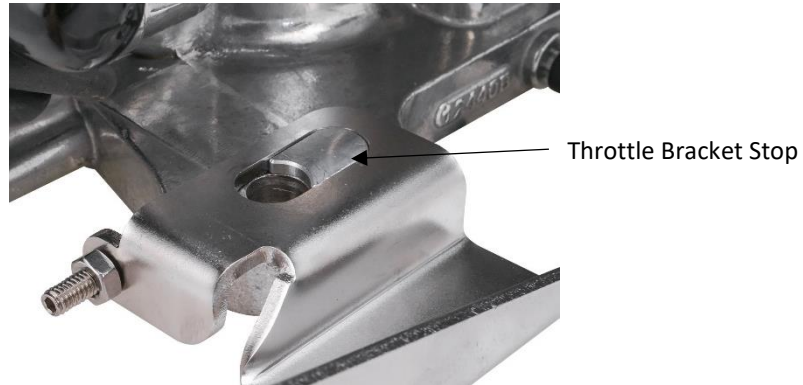

Figure 2
1. Remove the throttle body mounting bolt from the driver side rear corner of the throttle body. Referring to *Figure 2 & 3*, position the cable bracket and then drop the throttle body stop in the unused mounting bolt hole at that corner of the throttle body base. Reinstall the throttle body mounting bolt and snug down finger tight (do not fully tighten at this stage).